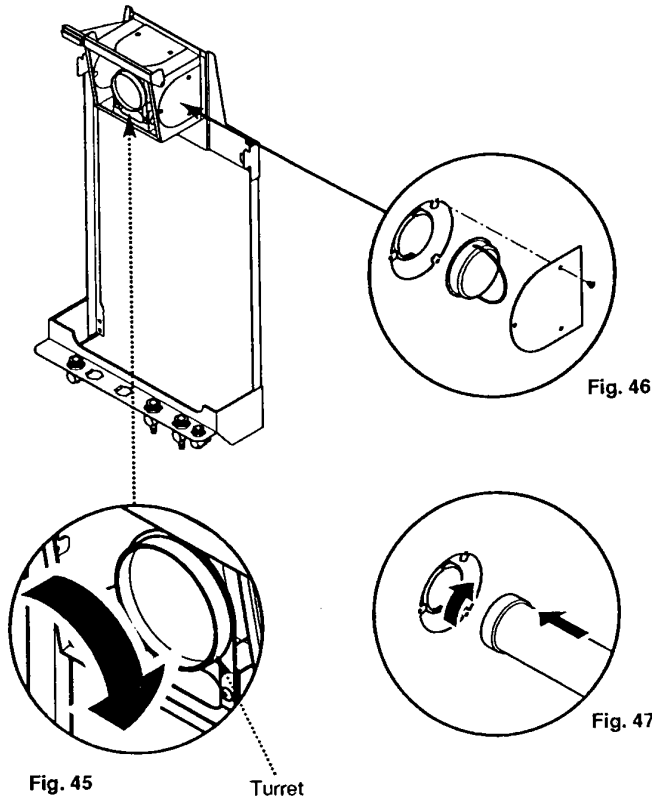
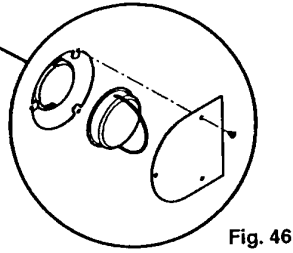

Fig. 45
Fig. 46
1. Remove the left or right hand air box blanking plate, as appropriate, from the back plate air box by releasing the three screws (Fig 46).
2. Rotate the turret to face the selected opening (Fig. 45) and remove the side blanking cap by pushing in and turning anti-clockwise to release the bayonet fitting (Fig. 46).